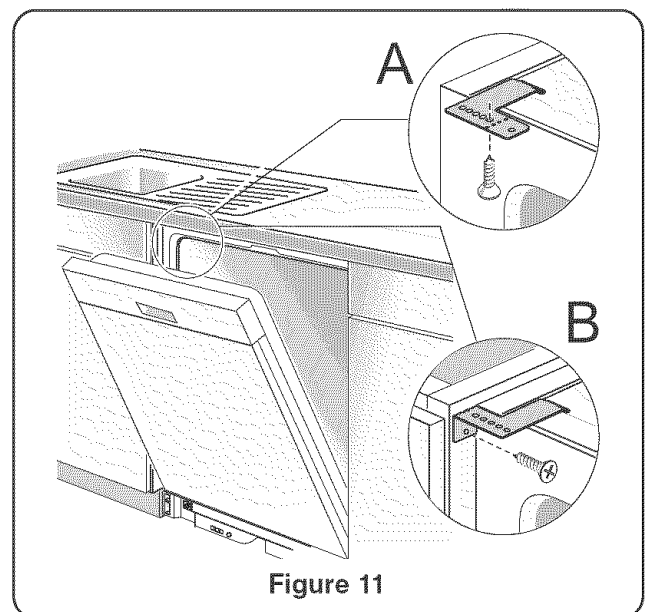

Figure 11
1) **Top Mount** is used for countertops made of wood or other materials that can be easily drilled. Orient the mounting brackets as shown in Figure 11, letter A, and position the two small tabs on the mounting brackets over the two slots on the dishwasher's front corners. Push the mounting brackets down firmly to insert the tabs into the slots.
2) **Side Mount** is used for countertops made of marble, granite, or other very hard materials that cannot be easily drilled. Bend the mounting brackets along the small holes and in the same direction as the two small tabs. Orient the mounting brackets as shown in Figure 11, letter B, and position the two small tabs on the mounting brackets over the two slots on the dishwasher's front corners. Push the mounting brackets down firmly to insert the tabs into the slots.